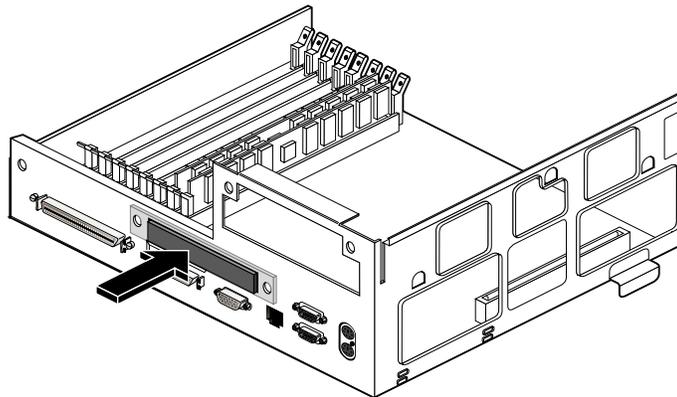

Figure 1-11 Removing the I/O Slot Panel from the R10000
2. Remove the filler panel covering the I/O slot. It should pop out when you push on it (Figure 1-11).